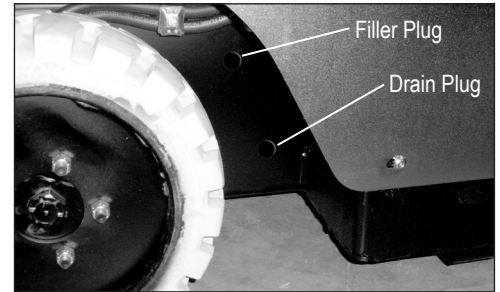

FIG. 2
1. Remove filler plug (Figure 2).
2. Drain fluid by removing the drain plug from side of tank (Figure 2). This unit contains 6 gallons (22.7 liters) of fluid. Ensure the container size is adequate to catch fluid.
4. Remove filler plug (Figure 2).